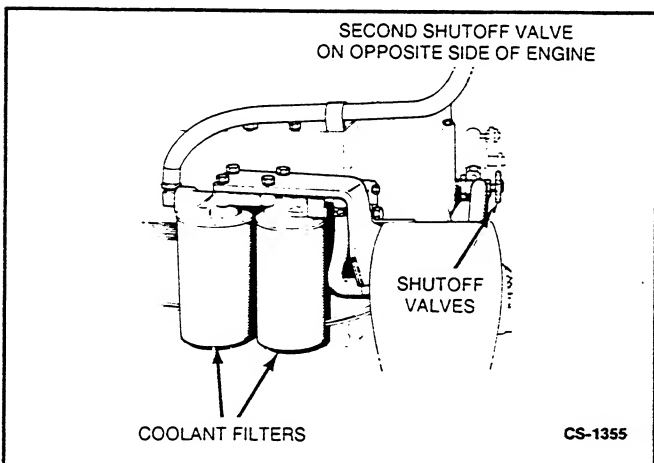

FIGURE 5-9. TYPICAL COOLANT (CORROSION) FILTER
**Coolant Filters:** Spin-on type corrosion filters are standard equipment (see Figure 5-9). These precharge filters are compatible with plain water and all ethylene glycol base permanent antifreeze coolants. Refer to engine manual for instructions if a methoxy propanal base antifreeze is desired. Replace filter periodically as recommended in *Maintenance* section.